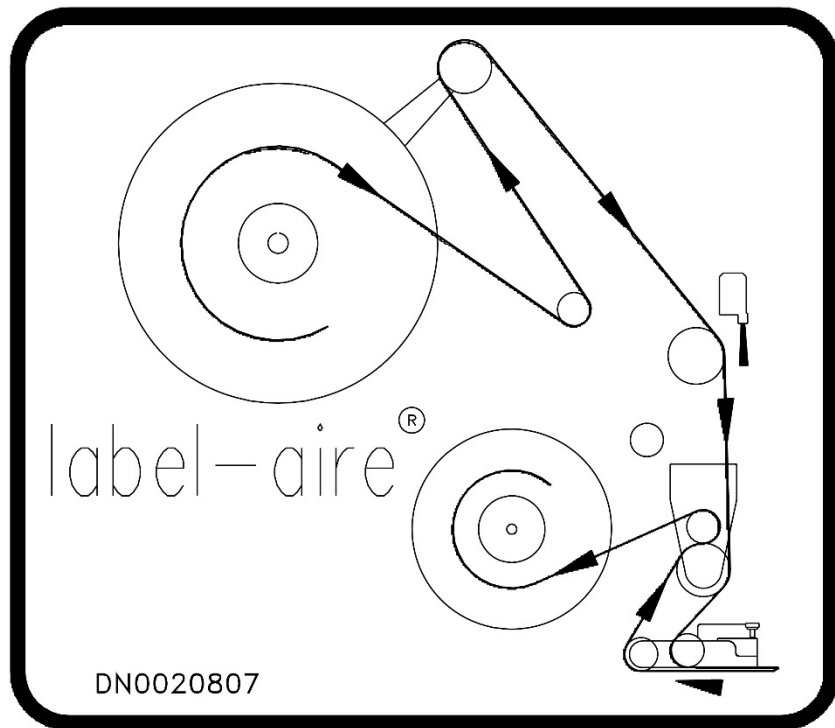
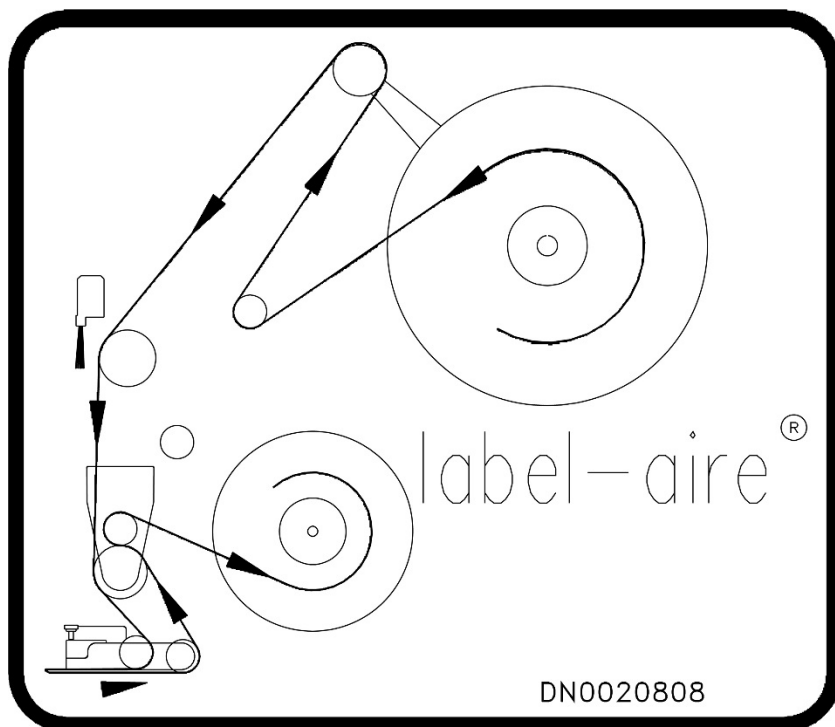

Figure 34 Threading Diagram (Right Hand)
Figure 35 Threading Diagram (Left Hand)
1. Turn the [POWER] switch OFF (O). Remove the outer unwind disk. See Figure 34 and Figure 35.
6. Thread the web through the machine as shown in Figure 34 and Figure 35.